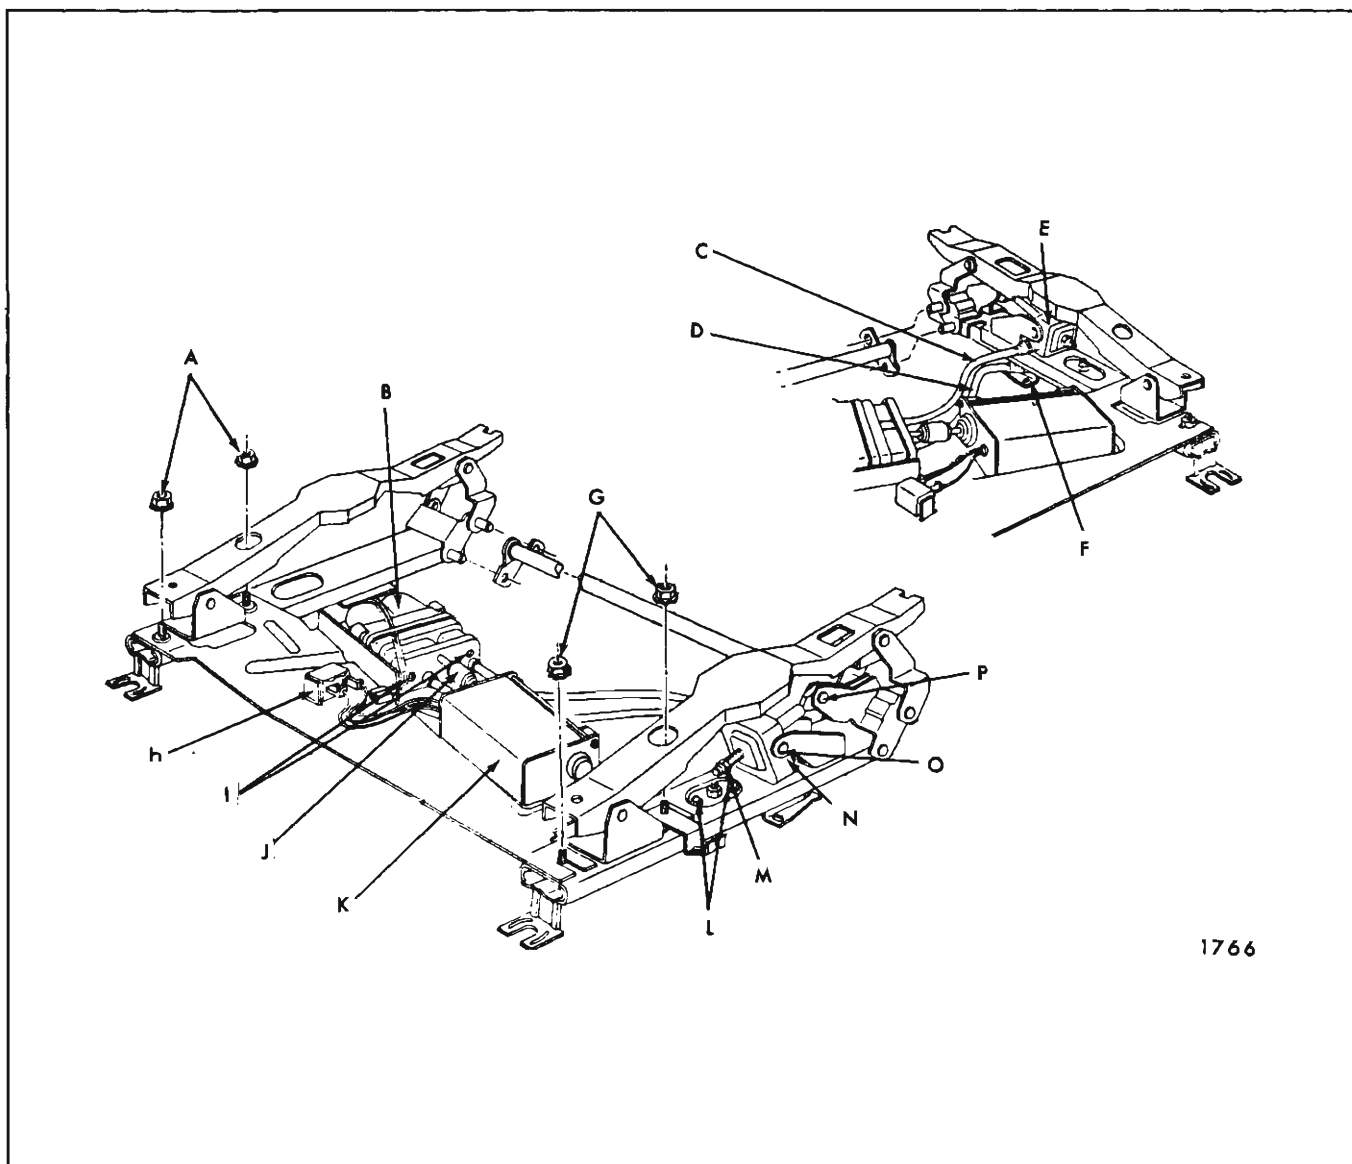

Fig. 2H15—Bucket Seat Adjuster Assembly
3. Using a clutch type screwdriver or other suitable tool, remove shoulder screws securing linkage to vertical gearnut (Fig. 2H15).
4. Remove jackscrew "down" stop from jackscrew (Fig. 2H15).
2. Remove seat adjuster-to-seat bottom frame front and rear attaching bolts (Fig. 2H14).
3. As a bench operation, remove jackscrew-to-adjuster linkage attaching rivet and remove jackscrew from adjuster assembly (Fig. 2H15).